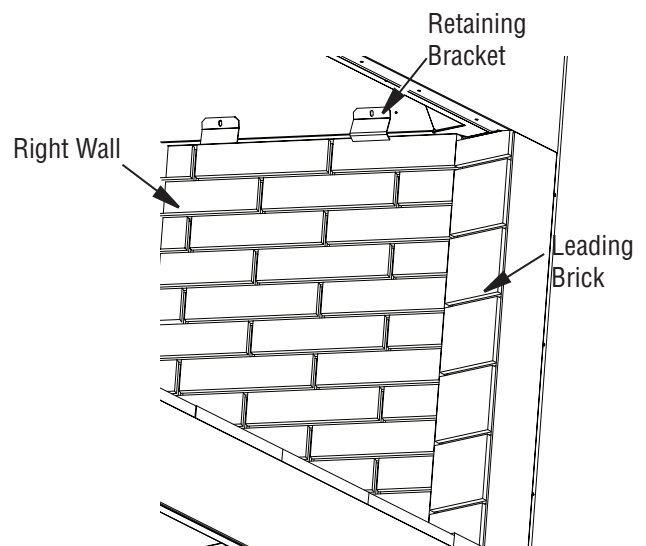

Figure 22 - Installing Side Walls
4. Secure the firebrick wall using 2 of the retainers provided. The bracket will slip underneath the metal lip on the top of the wall and screw into the inner dome of the fireplace (Figure 22).